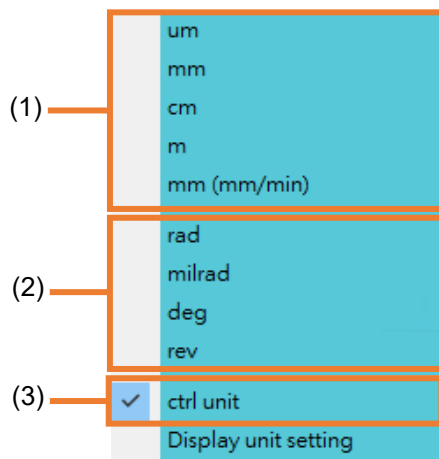

Figure 10.2.2.1
- (1) If the proportion of conversion is 0, the corresponding unit options (Figure 10.2.2.1) cannot be selected.
- (2) After clicking **Apply**, perform **Send to drive** to avoid losing the settings after servo drive is reset.